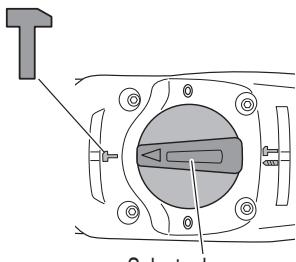

Fig. 8
(1) Switching to "hammering"
- (b) Align ▲ of the selector lever and T of the crank cover as illustrated in Fig. 8.